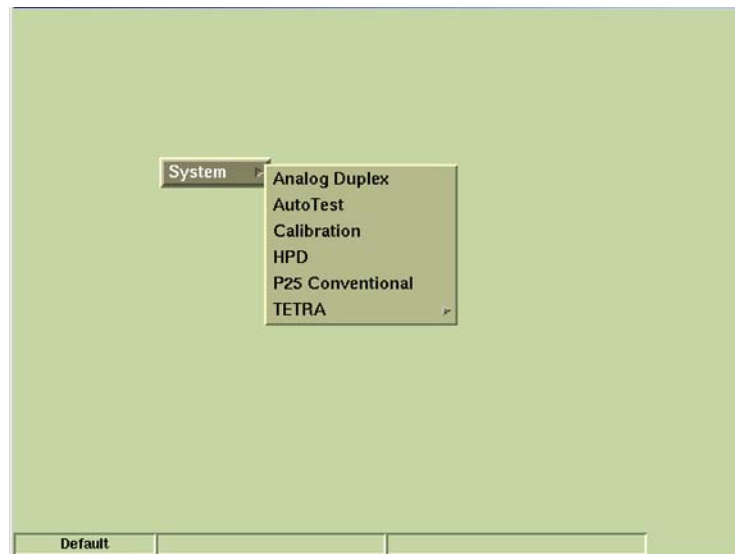

Fig. 3-1 Factory Default Tile
4. Verify no error messages appear on the display during power-up process. The Factory Default Screen (refer to Fig. 3-1) should appear at initial start-up; this screen is not displayed again during the power-up process unless the Restore Factory Defaults procedure is completed (refer to Restoring Factory Default State).